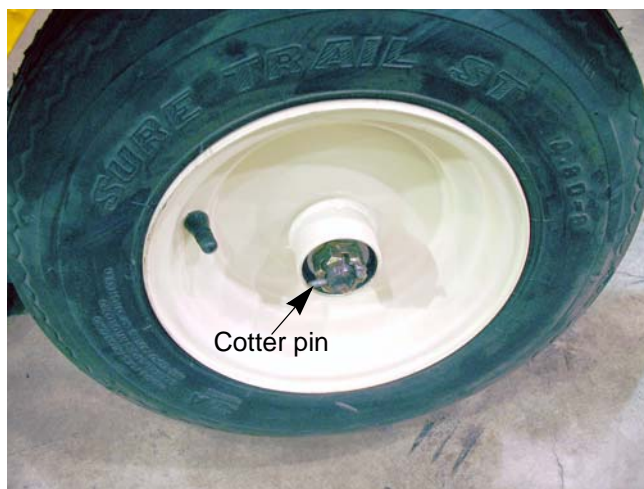

Figure 7.7
3. Remove and discard the cotter pin. See Figure 7.7.